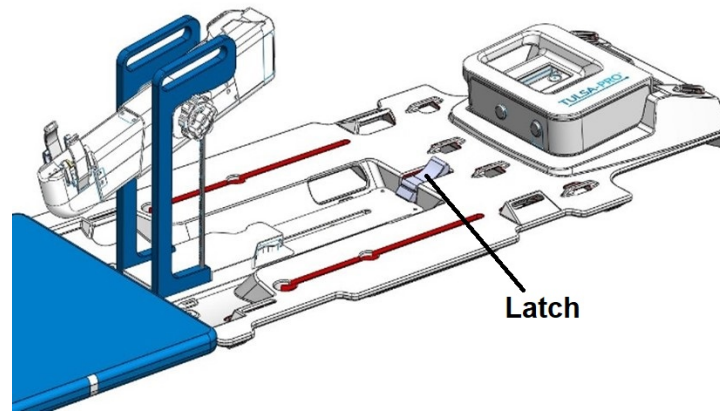

Figure 22: Secure the Positioning System using the latch on the base plate
2. **MRI Technologist:** Place the PSIB in its slot at the foot of the base plate. Secure the Positioning System (PS) to its slot on the base plate between the patient's legs by closing the latch (*Figure 22*).